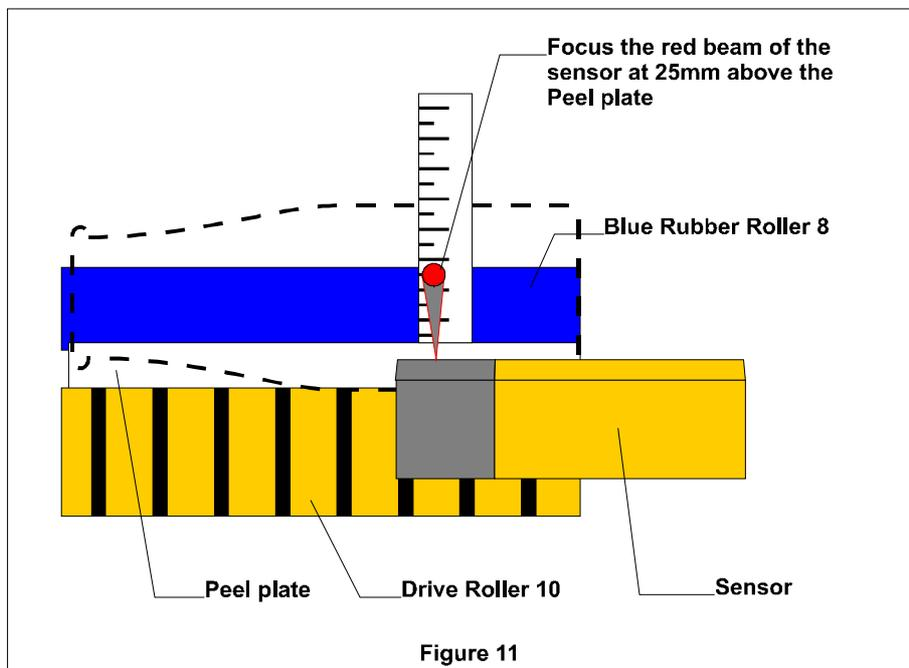

Figure 11
5. Remove the container. Place a ruler vertically on the stainless steel Peel plate [the point where the labels eject onto the product], and focus the Photoelectric beam to 25mm on the ruler. [see Figure 11]